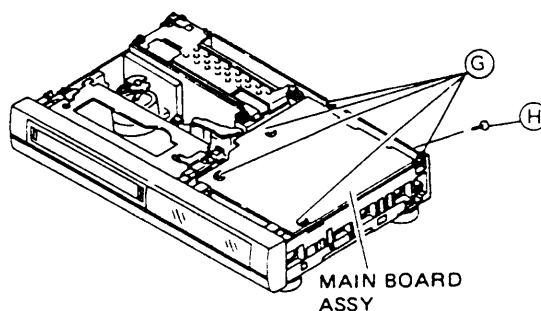

Fig. 1-1-4
2. Refer to Fig. 1-1-4 and take out 5 screws (G) and 1 screw (H) from main board assembly.